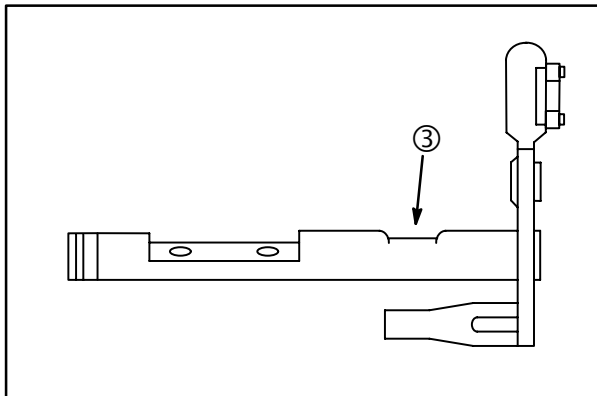

Fig. 77
2. Inspect throttle shaft and choke shaft for wear (3), **Fig. 77**. Replace if worn.